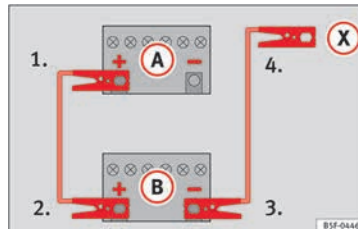

Fig. 78 Diagram of connections for vehicles without Start Stop system
2. Connect one end of the **red** jump lead to the positive (+) terminal of the vehicle with the flat battery (A) » » **Fig. 78**.
3. Connect the other end of the **red** jump lead to the positive terminal (+) in the vehicle providing assistance (B).
4. *For vehicles without Start-Stop system:* connect one end of the **black** jump lead to the negative terminal (-) of the vehicle providing the current (B) » » **Fig. 78**.